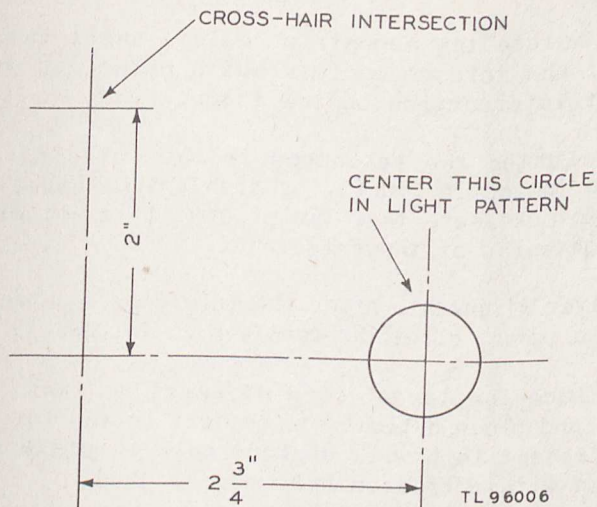

Figure 42. Target card for alignment.
(1) Prepare a target card dimensioned exactly as shown in figure 42.
(2) Place the target card at least 30 feet from the transmitter. More accurate adjustments can be made if the target card can be placed up to 100 feet from the transmitter.
(3) Project the light beam on the target card. Do not throw the transmitter +B switch to the ON position.
(4) Orient the transmitter so that the circle on the target card is centered in the light pattern.
(5) The intersection of the cross hairs of the telescope should not coincide with the cross-hair intersection on the target card. If the two do not coincide, adjust the alignment of the telescope as follows: